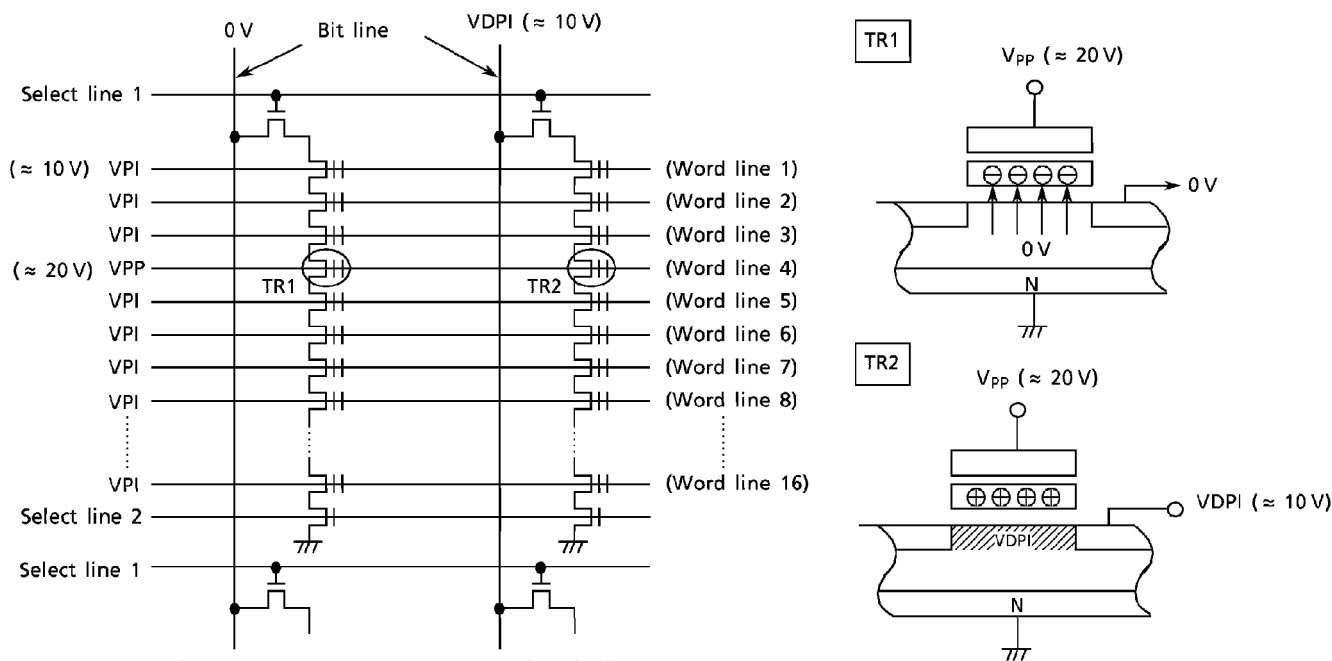

Figure 17. TC58V32FT Program Device Physics
Figure 17 shows the NAND memory cell level details of the programming mechanism. The Program operation is used to write "0" data into an erased memory cell ("1" data cell) using a tunneling mechanism. An example Program operation to program "0" data into TR1 and "1" data into TR2 is as follows:
- (1) A high level is applied to Select line 1 and a low level is applied to Select line 2 so that the device is connected to the Bit line and disconnected from the ground line.
- (2) V_{pp} (≈ 20 V) is applied to the selected word line and an inhibit voltage of V_{PI} (≈ 10 V) is applied to the unselected word lines.
- (3) 0 volts is applied to the bit line tied to cell transistor TR1 and the inhibit voltage $VDPI$ (≈ 10 V) is applied to the bit line tied to TR2.
- (4) V_{pp} is applied between the control gate and the channel in TR1, as shown in Figure 17, which causes electrons to be injected from the channel to the floating gate by a tunneling mechanism.
- (5) The injected electrons are captured in the floating gate surrounded by an oxide layer and will remain, even after power is cut off, until they are removed by an Erase operation.
- (6) Although 20 volts is applied to the control gate of TR2, the voltage difference between the control gate and the channel is only 10 V because the voltage of the channel is 10 V. Therefore, tunneling does not take place. (i.e. the electron is not injected into the floating gate.)
- (7) Tunneling does not take place in the unselected pages because of the 10 V (V_{PI}) applied to the unselected word lines which makes the voltage difference between the control gate and channel only 10 volts.